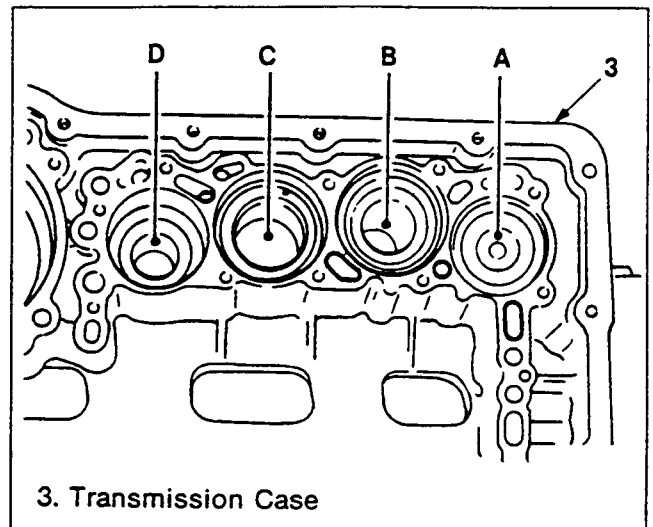

Figure 243. Accumulator Case Hole
2. Put the spring into the case hole of the accumulator (figure 243).